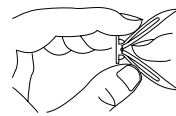

Figure 4 - Folding Anchor
2. Fold wall anchor (see Figure 4).